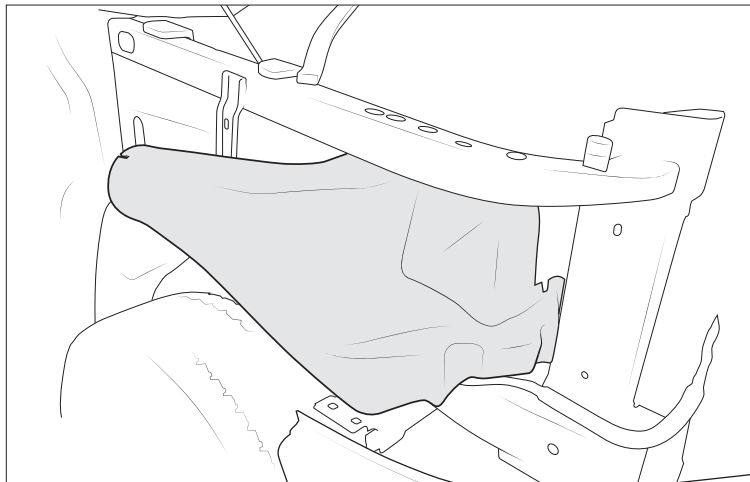

Figure 12
6. Feed the plastic airbox connection part through the fender opening as shown (fig. 12).